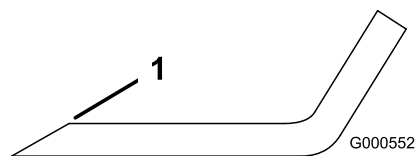

Figure 64
1. Use a file to sharpen the cutting edge at both ends of the blade (Figure 64).
Note: If the blade is not balanced, file some metal off the end of the sail area only (Figure 64).